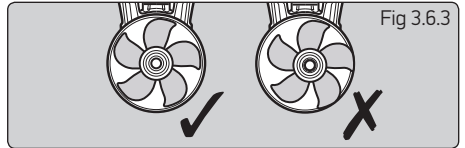

Fig 3.6.3
- ▶ Fig 3.6.3 - Check that propeller is centred and free turning (within 10 minutes of applying Blue Loctite® 243).